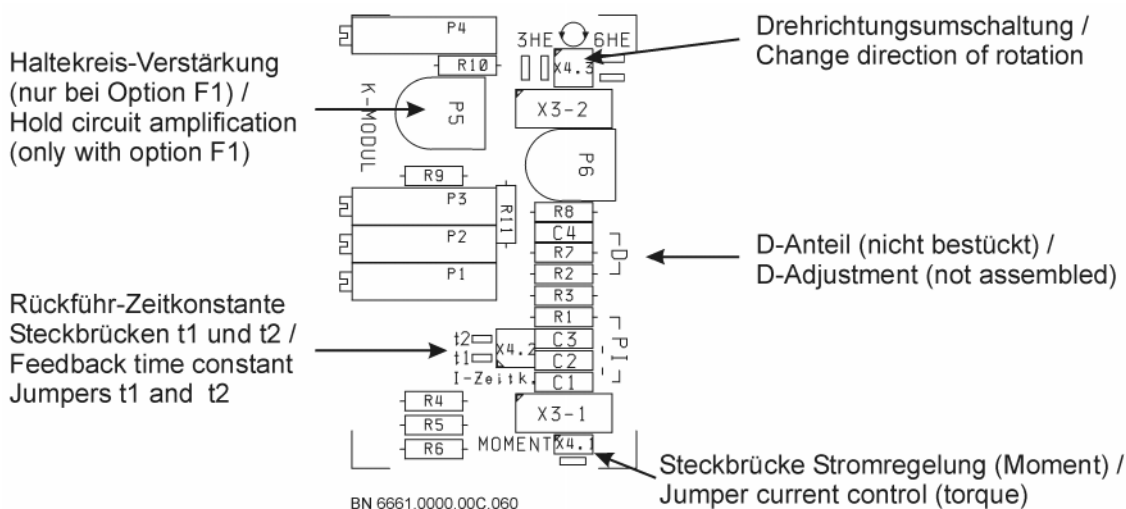

Fig. 10: Location of the jumpers on the customer module
- Figure 10 shows the location of the jumper.
Figure 10 shows the location of the jumpers. The following applies:
If a D circuitry is to be connected to the speed feedback (PID controller), the components C 2 and R 10 must be installed on the customer module. Their locations are printed on the board (see fig. 10). The values must be determined by experiment. 100 nF and 100 k Ω can be regarded as guide values.